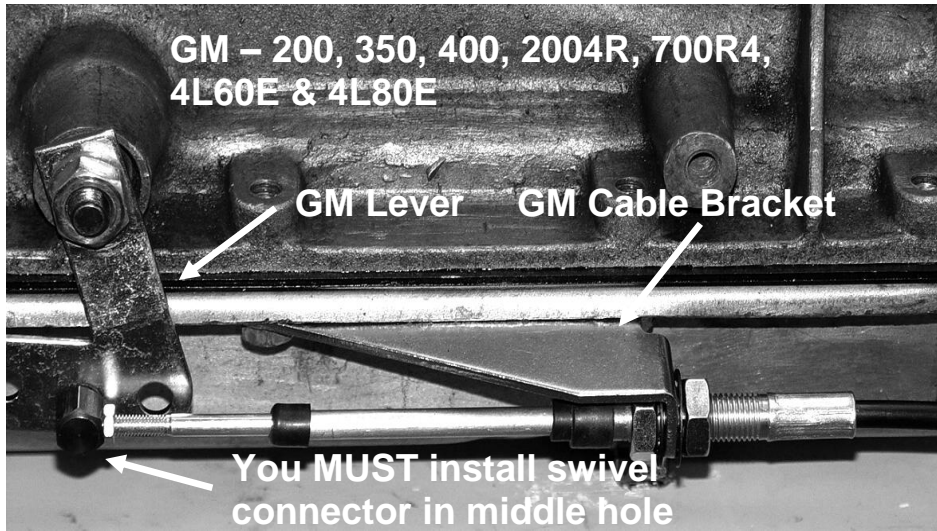

Figure 3
**STEP 9.** If you have not already done so, remove the stock selector lever nut and the selector lever. Discard the stock lever and the stock shifter linkage. Install the **TCI®** selector lever in position using the stock selector lever nut (**See Figure 3**). Torque the nut to 23 ft. lbs. The lever should move smoothly from front to rear with a positive click in each gear position.